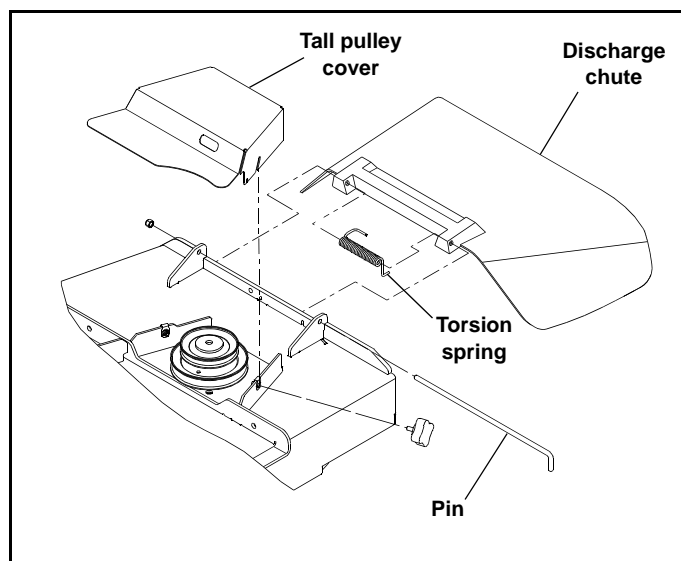

Figure 4-5
7. Assemble the torsion spring, original discharge chute and pin to the bracket tabs. Make sure the torsion spring is assembled as shown so that it applies pressure to the discharge chute and keeps it in the down position. Figure 4-5
9. **60", 66" & 72" decks only** – Assemble the tall pulley cover (included with the adapter kit) to the deck. Figure 4-5